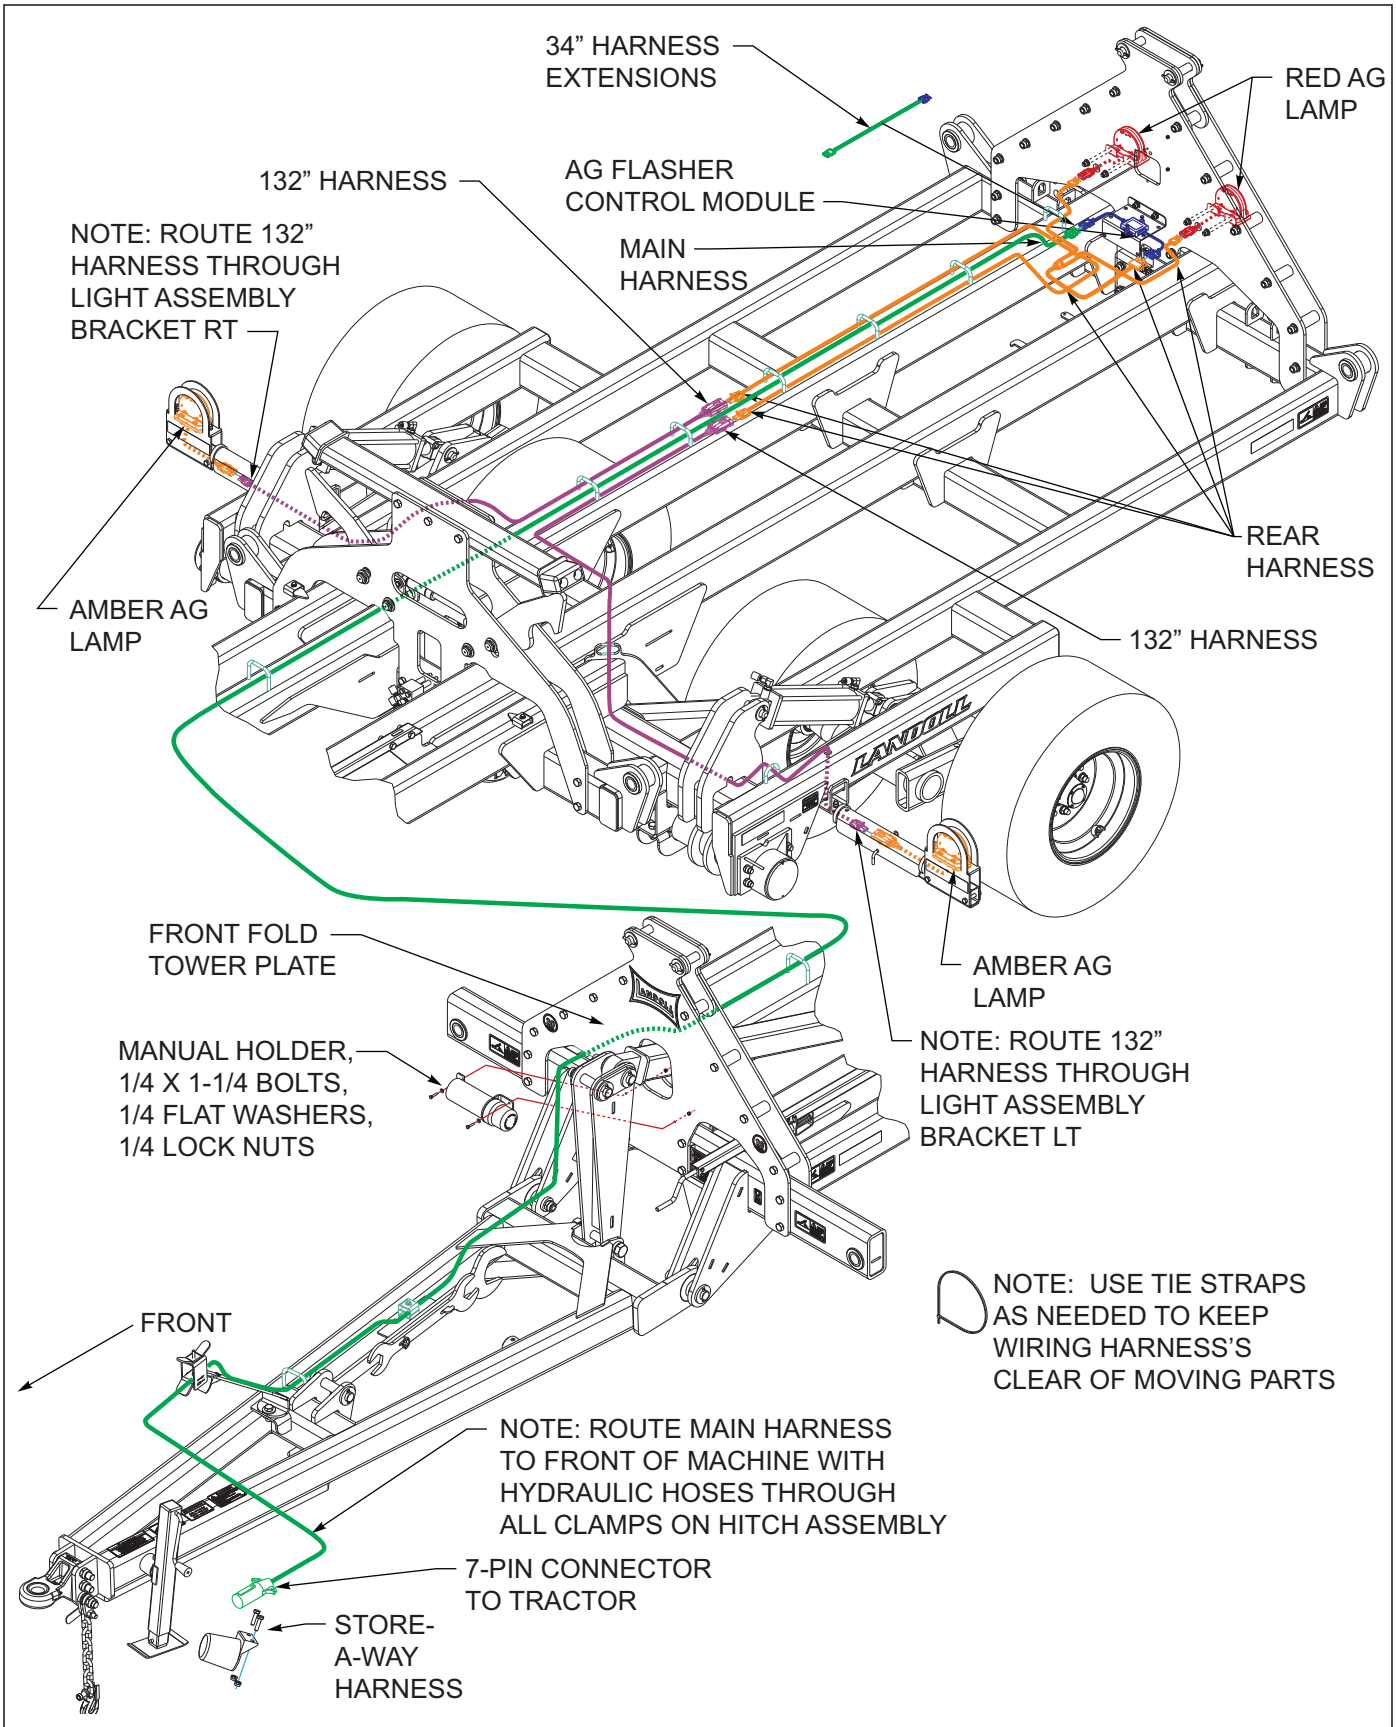

Figure 3-38: Electrical Assembly W/LED Lights 2411AFG-07-09
- Models 2411AFG-07-09 install the manual holder to the front of the front fold tower plate using 1/4 x 1-1/4 bolts, 1/4 flat washers and 1/4 lock nuts *See Figure 3-38*.